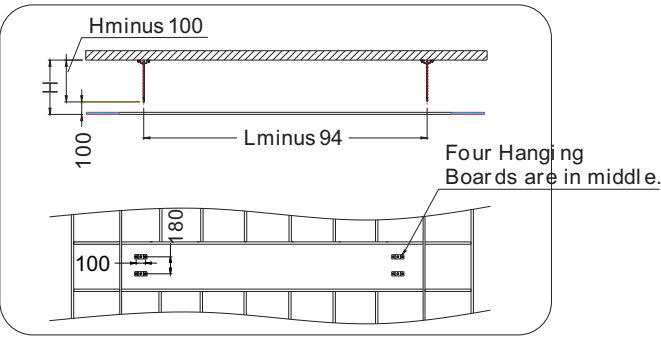
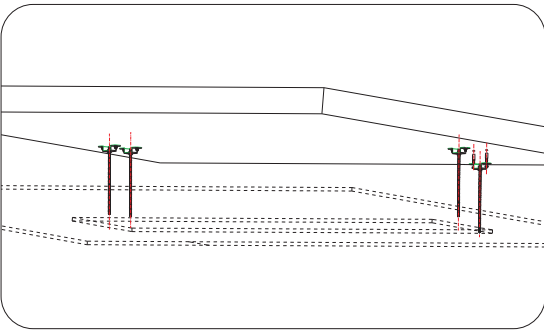

figure 4
figure 5
- 3.Please measure the security distance between hanging brackets (figure 4), and fix the hanging brackets on the ceiling using expansion screws (figure 5).